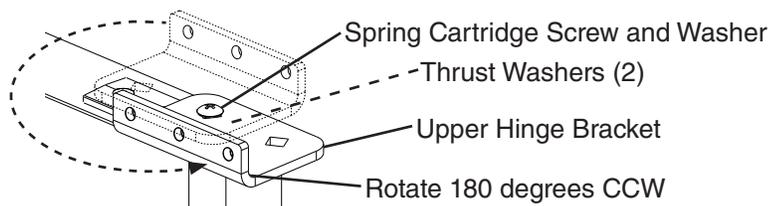

Fig. 28
- 4) Rotate the upper hinge bracket 180 degrees counter clockwise. See Fig. 28. Next, remove the spring cartridge screw and washer, then remove the upper hinge bracket and thrust washers (2). Set the door aside. Retain the upper hinge bracket thrust washers for opposite side hinge bracket installation.